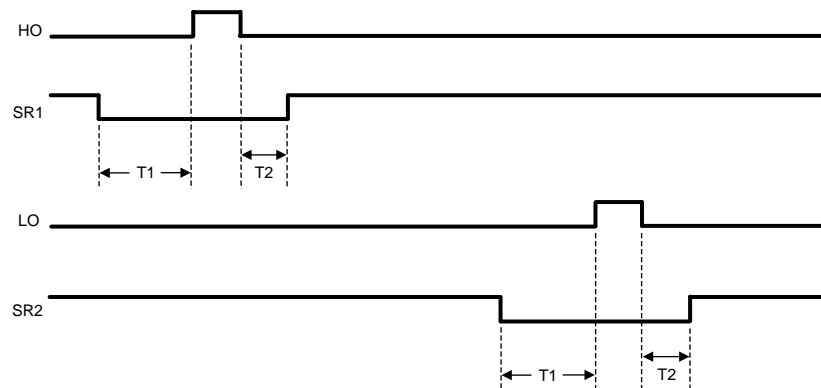

Figure 17. HO, LO, SR1 and SR2 Timing Diagram
Synchronous rectification (SR) of the transformer secondary provides higher efficiency, especially for low output voltage converters. The reduction of rectifier forward voltage drop (0.5V - 1.5V) to 10mV - 200mV V_{DS} voltage for a MOSFET significantly reduces rectification losses. In a typical application, the transformer secondary winding is center tapped, with the output power inductor in series with the center tap. The SR MOSFETs provide the ground path for the energized secondary winding and the inductor current. Figure 17 shows that the SR2 MOSFET is conducting while HO enables power transfer from the primary. The SR1 MOSFET must be disabled during this period since the secondary winding connected to the SR1 MOSFET drain is twice the voltage of the center tap. At the conclusion of the HO pulse, the inductor current continues to flow through the SR1 MOSFET body diode. Since the body diode causes more loss than the SR MOSFET, efficiency can be improved by minimizing the T2 period while maintaining sufficient timing margin over all conditions (component tolerances, etc.) to prevent shoot-through current. When LO enables power transfer from the primary, the SR1 MOSFET is enabled and the SR2 MOSFET is off.
The timing of SR1 and SR2 with respect to HO and LO is shown in Figure 17. SR1 is configured out of phase with HO and SR2 is configured out of phase with LO. The deadtime between transitions is programmable by a resistor connected from the DLY pin to the AGND pin. Typically, R_{DLY} is set in the range of 10kΩ to 100kΩ. The deadtime periods can be calculated using the following formulae:
The R_{DLY} resistor programs the delays between the SR1 and SR2 signals and the HO and LO driver outputs. Figure 17 shows the relationship between these outputs. The DLY pin is nominally set at 2.5V and the current is sensed through R_{DLY} to ground. This current is used to adjust the amount of deadtime before the HO and LO pulse (T1) and after the HO and LO pulse (T2). Typically R_{DLY} is in the range of 10k Ω to 100k Ω . The deadtime periods can be calculated using the following formulae: